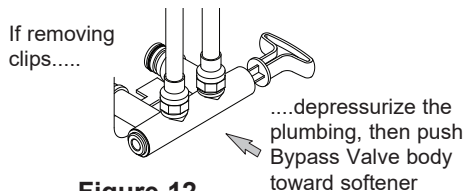

Figure 12
IMPORTANT: A copper or galvanized cold water pipe is often used to ground electrical outlets in the home. **Grounding protects you from electrical shock.** The water softener may have broken this ground path. To restore connection, install a 12"-long, 6-gauge copper wire across and tightly clamp using UL-approved 1/2"-1" bronze grounding clamps at both ends as shown (Figure 12). Zinc clamps should not be used on copper plumbing. Wire and clamps may be purchased separately from your local hardware store.
7. Check for leaks around clips at softener's inlet and outlet. If a leak occurs at a clip, depressurize the plumbing (turn off the water supply and open faucets) before removing clip. When removing clips at the softener's inlet or outlet, push the single bypass valve body toward the softener (See Figure 12). Improper removal may damage clips. Do not reinstall damaged clips.